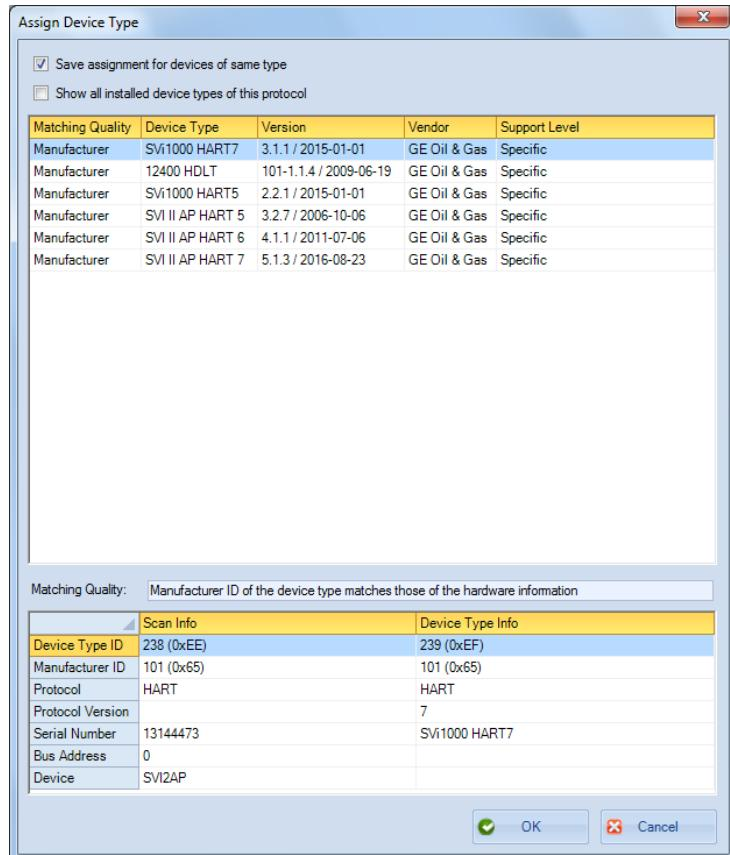

Figure 112 Assign Device Type
- Ensure the modem is connected, select the HART modem under which you want the positioner, right-click and select **Rebuild Network**. If you use **Rebuild Network**, appears (Figure 112). Select the correct device type and click **OK**.